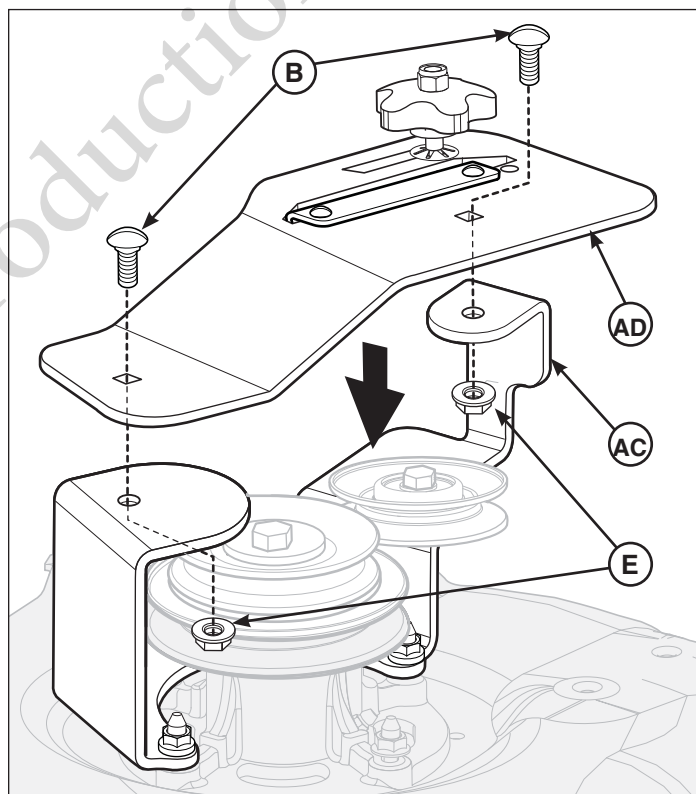

Figure 7
5. Place turbo belt cover (AD, Figure 7) onto idler cover support (AC).
6. Insert carriage bolts (B) through turbo belt cover and secure with nuts (E).